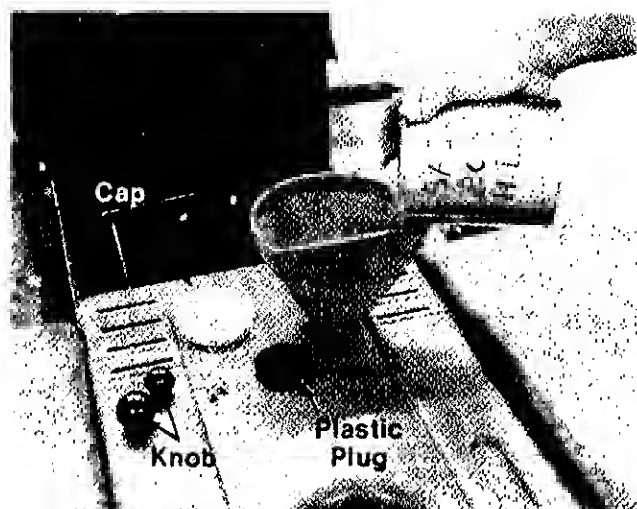

FIGURE 16.
4. If it is necessary to add oil, remove the plastic plug, unscrew the cap on the reservoir/expansion tank and add oil through the hole with a funnel. Do not overfill. (See figure 16.)